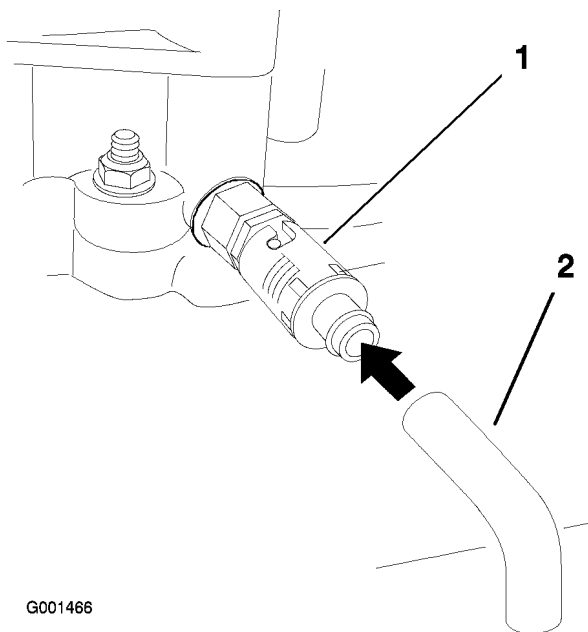

Figure 35
6. Place a pan below the drain hose. Rotate oil drain valve to allow oil to drain (Figure 35).
8. Remove the drain hose (Figure 35).